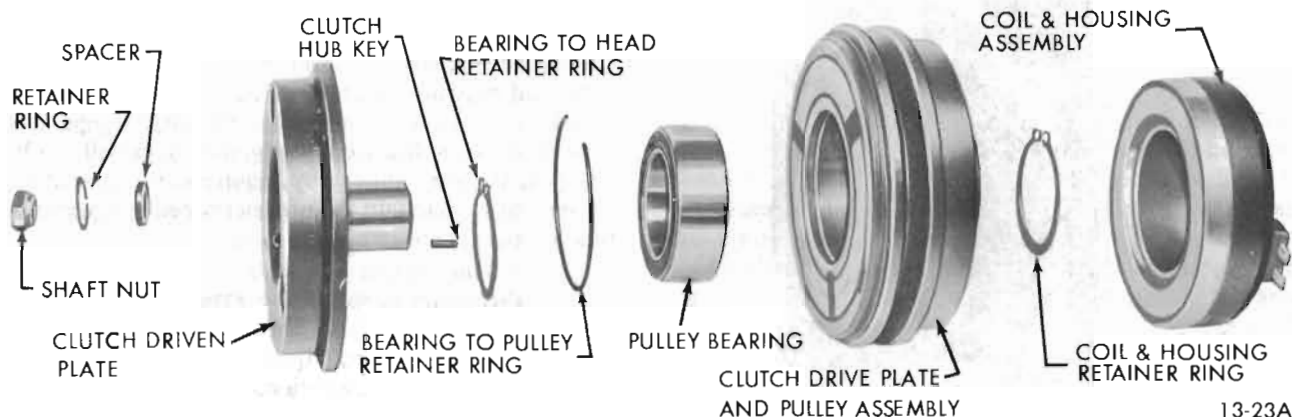

Figure 13-8 Magnetic Clutch and Pulley Assembly
**12. Magnetic Clutch and Pulley Assembly** - The magnetic clutch and pulley assembly (see Figure 13-8) together transmit power from the engine crankshaft to the compressor. The magnetic clutch is actuated when the air conditioning clutch compressor switch and the fan switch located on the instrument panel control assembly are closed. When the switches are closed, the coil sets up a magnetic field and attracts the armature plate (movable element of the clutch driven plate). The armature plate portion of the clutch driven plate moves forward and contacts the friction surface of the pulley assembly, thereby mechanically linking the compressor to the engine. The compressor will operate continuously whenever the air conditioner clutch compressor switch and the fan switch are closed. When one or both of the switches are open the armature plate will be released due to spring tension and move away from the pulley assembly. This allows the pulley to rotate without driving the shaft. It should be noted that if the air conditioner system was in use when the engine was turned off, the armature plate may remain in contact with the pulley due to residual magnetism. When the engine is started the armature plate will separate from the pulley assembly. The coil is rated at 3.85 ohms (85 degrees F.) and will draw 3.2 amperes at 12 volts D.C.